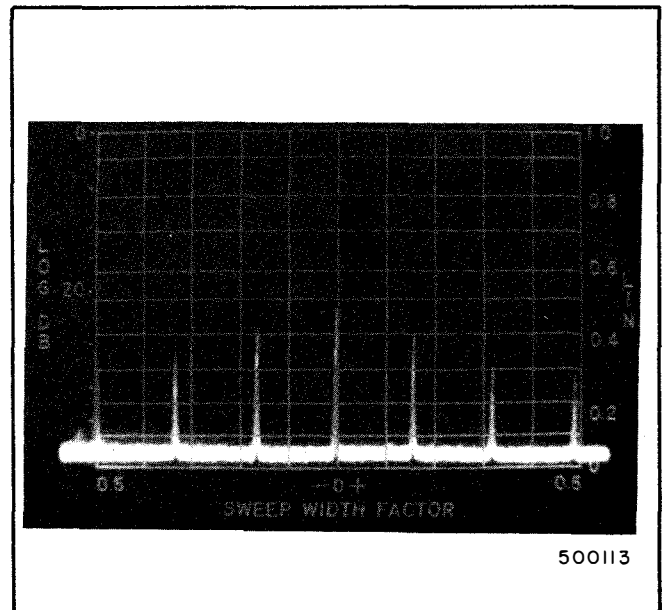

Figure 3-4. Marker Presentation, 3 Mc Sweep Width and 10 Mc Center Frequency
c. Set the CENTER FREQUENCY dial to 10 MC. Set the MARKERS - FREQUENCY selector to 500 KC. Adjust the MARKERS - LEVEL control for a convenient height of marker presentation. A 10 mc marker pip should be at or near the center of the screen. Gradually reduce the sweep width to minimum, maintaining the 10 mc pip at the center of the screen with the CENTER FREQUENCY control. Return to 3 mc sweep width and adjust the H POS control until the top of the pip coincides with the center vertical line. (See figure 3-4.)